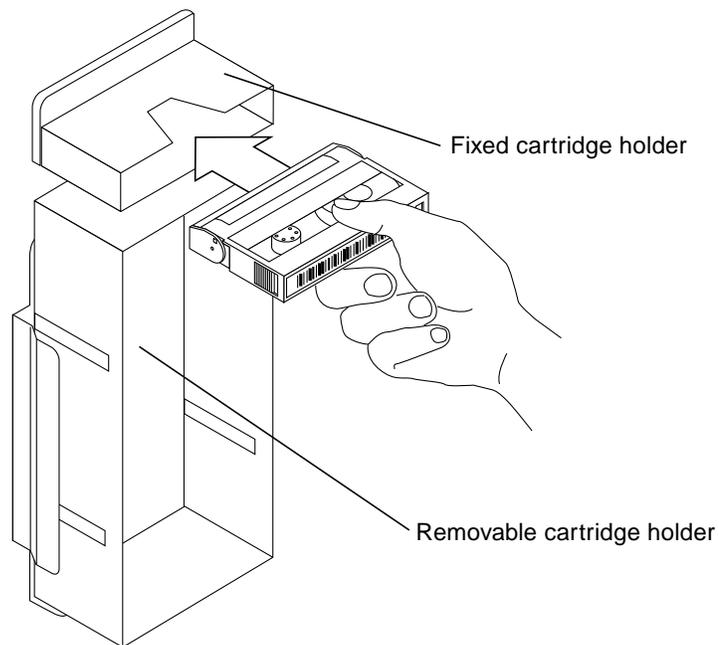

FIGURE 2-8 Inserting a Cartridge in the Fixed Holder
- **Insert the cartridge into the fixed cartridge holder until it snaps into place (FIGURE 2-8).**